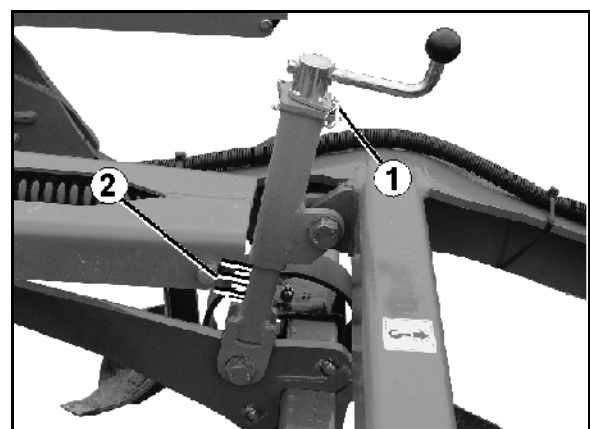

Fig. 41
1. Remove the linch pin (Fig. 41/1).
- A scale is provided for orientation on the adjustment units (Fig. 41/2).